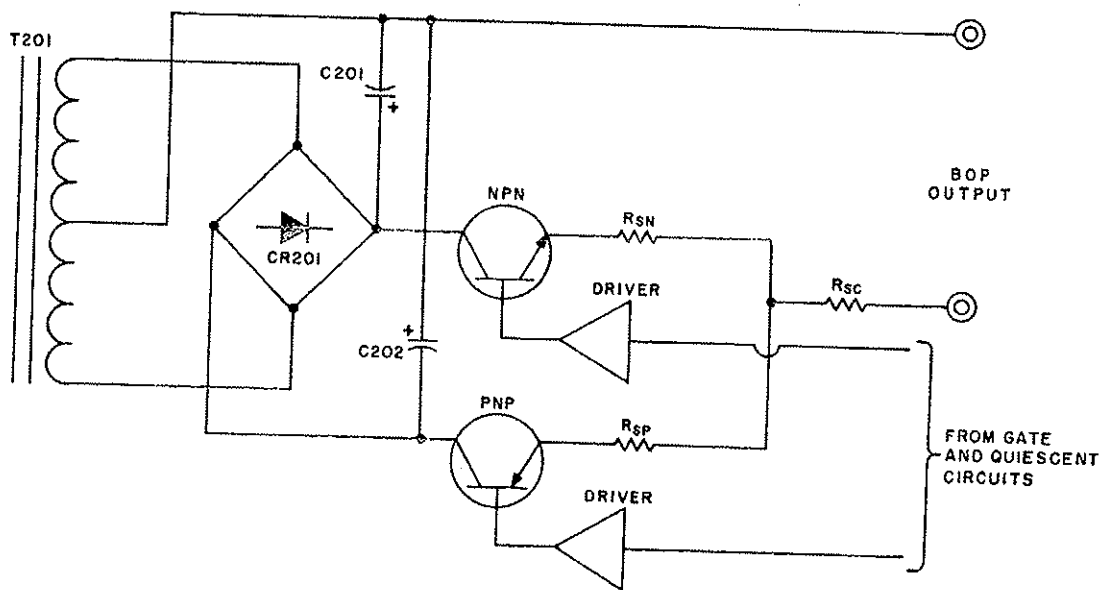

FIG. 4-2 MAIN D-C SUPPLY AND NPN/PNP POWER STAGE WITH DRIVERS.
- 4-21 MAIN D-C SUPPLY.** The dual MAIN D-C SUPPLY is derived from the center tapped secondary winding on the main transformer (T201). Rectified by a bridge rectifier (CR201) and capacitor filtered (C201,C202), the raw d-c voltages are applied to the NPN/PNP POWER STAGE as shown in FIG. 4-2. The MAIN D-C SUPPLY delivers the output current of the BOP via the series connected NPN/PNP POWER STAGE. All filter capacitors are paralleled by bleeder resistors (R201,R202).
- 4-22 OUTPUT POWER STAGE.** The output power stage, shown in FIG. 4-2 as two single complementary transistors, consists in reality of two groups of SERIES/PARALLEL connected NPN/PNP power transistors. The number of NPN/PNP power transistors will depend on the individual BOP model. These power transistors are mounted on a single common heatsink (A4) on ¼ Rack BOP models cooled by a single fan (B201) and on two heatsinks (A4,A5) on Full Rack BOP models, cooled by two fans (B201,B202)